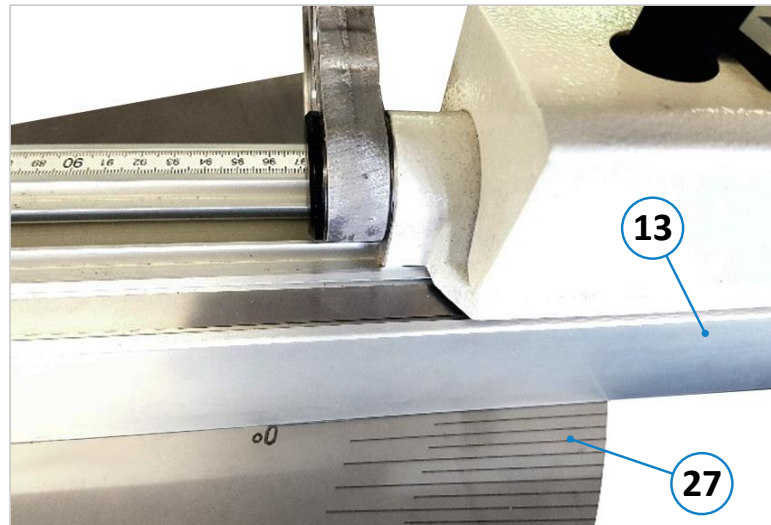

Figure 28: Cross-cut fence at zero position
- The cross-cut fence (13) is thus automatically set to the 0° position (see ⇒ Figure 28).
- Now tighten the locking handwheel (W) and the star grip (G) firmly.